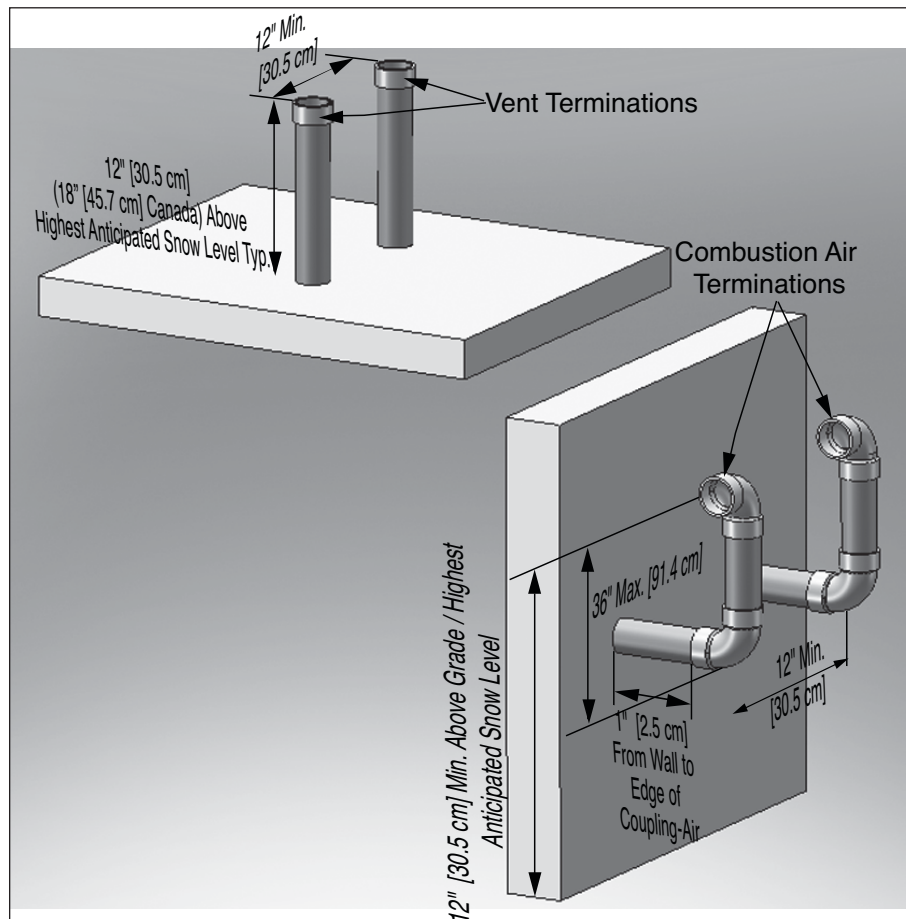

Fig. 13 - Direct Vent - Vertical Vent and Sidewall Combustion Air Terminations of Multiple HeatMaster TC Combination Boilers / Water Heaters
2. Each vent and combustion air termination must be a minimum 12" [30.5 cm] from the adjacent termination for installations in the U.S. as shown in *Fig. 13*. For installations in Canada, provide clearances as required by CAN/CSA B149.1.